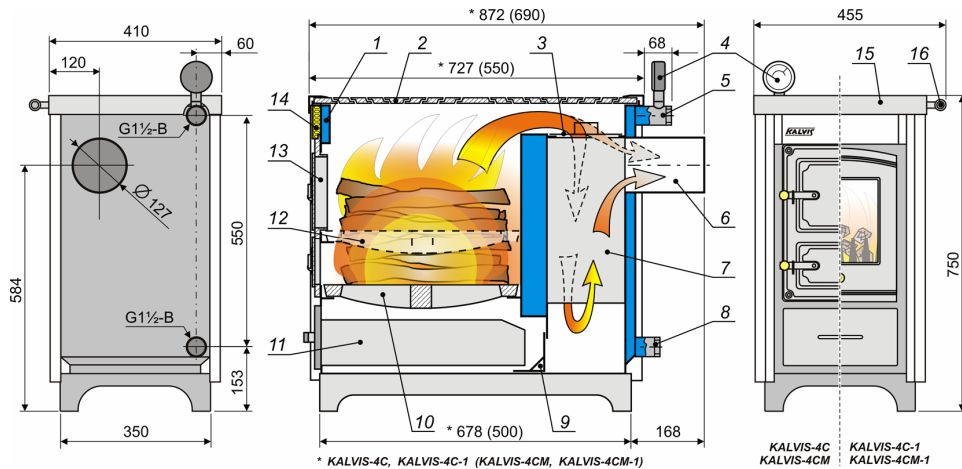

Fig 1.
5.2. Ignition (Fig. 1)
To prevent smoke from escaping into the room when fuel is added, it is recommended to open the ignition damper (Fig. 1, 3), then open the door carefully and add fuel. After adding fuel, close the door and ignition damper.